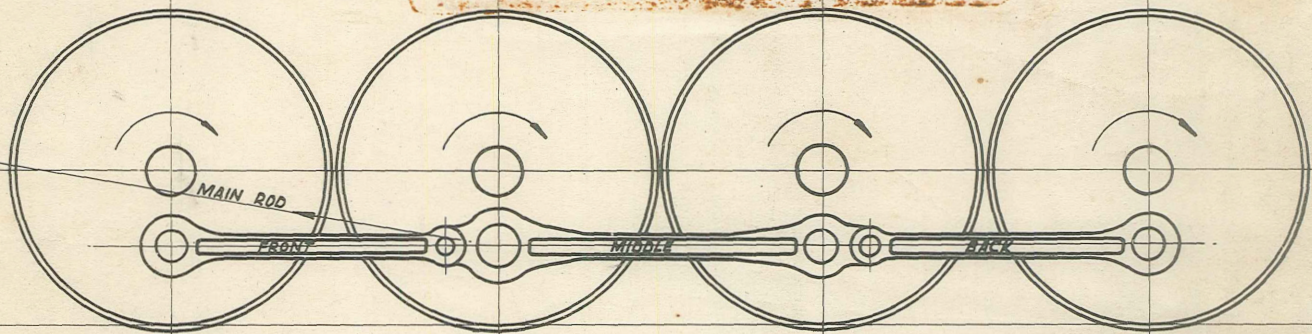
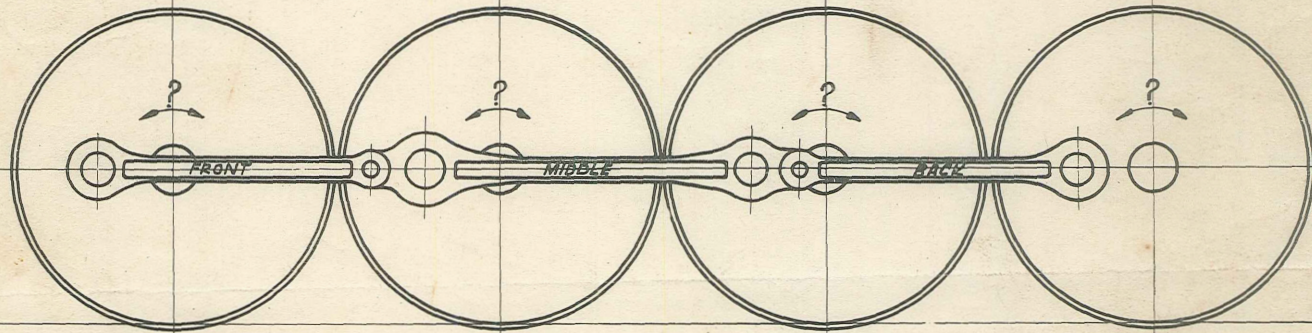

FIG. 1
FIG. 2
The ordinary type of steam locomotive has two valve gears, ^{or} one for each valve, so connected as to be moved by one reverse lever. Each valve gear consists of the same parts, and, therefore, when identifying the parts, both gears do not have to be shown in the same view. However, it is necessary to show the two valve gears in order that students may understand how the movement of the reverse lever is transmitted to both. In fig. (1) (a), (b); and (c) attached to this lesson, are shown three side views of a complete single Walschaert valve gear when an inside-admission valve is used, and fig 2 is a partial view which shows how the connection is made between the gears on each side so that the movement of the reverse lever and the reach rod can be transmitted to both. Similar parts in all of the views have the same reference numbers.
The names of the parts shown in fig. 1 are as follows:-
(1) the eccentric crank, (2) the eccentric rod, (3) the expansion link with the link foot (4); (5) the die-block; (6) figs. 1 & 2, the reverse shaft; (7) the reverse shaft crank with arms 7' and 8'; fig. 2, the reverse shaft arm, (9) fig. 1, the radius rod; (10) the radius rod hanger or lifting links; (11) the lap and lead rod; (12) the union link, (13) the valve stem; (14) the valve stem crosshead guide. (15) the valve stem crosshead; (16) the gear frame or expansion link support (17) the reach rod; (18) the counter balance spring and casing. The valve gear is shown in forward gear in fig. 1 (a), in mid-gear in (b) and in backward gear in (c).
The general arrangements of the parts of the Walschaert valve gear will be explained by referring to fig. 1. A detailed explanation of the arrangement and construction at the different points in the gear will be given at a later stage of this lesson.
The valve gear on each side of the locomotive is connected by the reverse shaft (6), fig. 2., which turns in boxes (d) on the gear frames when the reverse lever is moved. The reverse-shaft crank (7), made in one piece, is keyed or bolted to one end of the reverse shaft and the reverse shaft arm (8) to the other end. The two reverse shaft arms are connected by the radius rod hangers or lifting links to the radius rods; hence when the reverse lever is moved, the reach rod, through its connection with the reverse shaft crank, turns the reverse shaft, and, depending on the direction of movement, raises or lowers the arms, (8) and the radius rods (9). The combined guide yoke and gear frame bolts at the points (m) to the rectangular plate or casting (e), fig. 1, which extends across and is connected to the frames by brackets. Strictly speaking, the casting, (e) is the guide yoke, and the part (16) is the gear frame and guide-yoke end. The purpose of the counterbalance spring, which is connected to the reverse shaft by an arm and a rod, is to make it easier to move the reverse lever against the weight and friction of the valve gear. The spring is compressed when the radius rods are lowered to the bottom of the expansion links, hence the expansion of the springs helps to lift the rods to the top of the expansion links as shown in the view (a) of fig. 1.
A complete locomotive valve gear (by which is meant the two gears, a part of which is shown in fig. 2) may be considered as made up of two parts. One part is directly concerned with valve movement, and is in operation when the locomotive is in motion, while the other part is used to transmit movement to the first part through the reverse lever. The eccentric cranks, the eccentric rods, the expansion links, and the die-blocks, the radius rods and the lap and lead rods, there being two of each of the above, are the parts of the gear which have to do with moving the valves. The other part of the gear comprises the two radius rod hangers (or lifting links), the reverse shaft crank, the reverse shaft arm and the reverse shaft.
In fig. 1 (b) and 2, when the reverse lever and reach rod are moved forwards, the reverse-shaft crank arm moves in the same direction and thus turns the reverse shaft. The reverse shaft arms, fig. 2., move upwards, and the lifting links or radius rod hangers, the radius rods, & the die-blocks are raised to the position shown in fig. 1 (a). Therefore in this case, the die blocks are in the upper half of the expansion links, in forward gear. When the reverse lever is moved from the front to the back corner of the quadrant, the reverse shaft crank turns the reverse shaft and the downward movement of the reverse shaft arms, lowers the lifting links, the radius rods and the die-blocks to the lower half of the expansion links. The extent of the valve movement when the reverse lever is moved depends on the position of the main crankpins. With the main crank pin (a) fig. 1 on the bottom quarter, moving the reverse lever from the front to the back corner of the quadrant causes the valve to close the front steam port and open the back steam port.
When a locomotive has a two-wheel leading bogie, the leading driving wheel is so close to the cylinder that the guide yoke has to be placed at the extreme end of the guide bars in order to clear the wheel and connect to the frame. In this case the type of gear frame shown in fig. 1 is generally used because the guide yoke is far enough from the steam chest to permit of a proper design of the parts of the gear forward of the yoke.
When a locomotive has a four-wheel leading bogie, the trailing bogie wheel is almost entirely behind the cylinder, and this brings the leading driving wheel between the rear of the guide bars and the main frame. For this reason the guide yoke has to be placed ahead of the leading driving wheel and quite close to the steam chest in order to connect to the frame. In this event the type of gear frame shown in fig. 1 cannot be used because the frame is too close to the steam chest to permit of the valve gear being properly designed. To bring the expansion link about the same distance from the steam chest as before and thereby proportion properly the valve gear, the type of gear frame shown on page 55 of the handbook of Instructions for Enginedrivers Firemen and Cleaners is used.
There are two general ways of connecting the back end of the radius rod to the reverse shaft crank. The drawing of the Ab. class locomotive clearly shows the arrangement which is mostly used on our locomotives. The lifting links connect the arms on the weighbar shaft with the radius rods on each side of the locomotive, and serve to lift the radius rod and the die-block from the full forward position at the bottom of the expansion link to the full back gear position at the top of the expansion link. The reverse shaft has a balance weight attached to each side of the motion to assist in reversing from forward to back gear. This system of reversing varies from the system shown on fig. 1 of the attached lesson, where (18) shows the use of a counter balance spring.